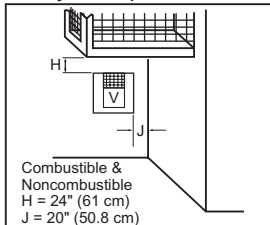

Figure 7 - Minimum Clearances for Termination Cap
- When locating termination cap, it is important to observe the minimum clearances shown in Figure 7, page 9.